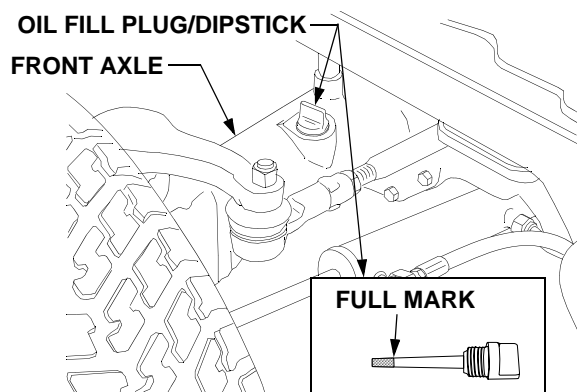
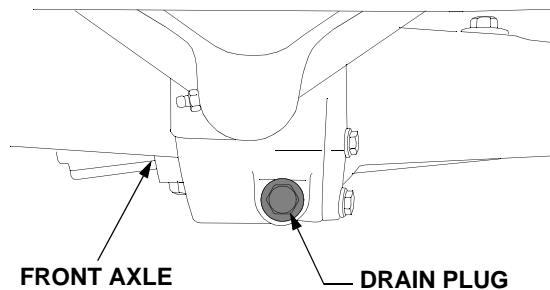

Figure 45
Figure 47
- The oil fill plug/dipstick is located on the *left* side of the axle housing. See Figure 45.
- Clean the area around the oil fill plug/dipstick to prevent debris from entering the axle housing. See Figure 45.
- Withdraw the dipstick and wipe it clean, then reinsert and screw in all the way. Unscrew and withdraw again to read the oil level. Always keep the oil level between the bottom and the full mark of the dipstick (See Figure 45).
- To prevent debris from entering the front axle housing, clean the area around the oil fill plug/dipstick and the axle drain plug located at the center front of the axle. Refer to Figure 45 and Figure 47.
- Remove the oil fill plug/dipstick to help vent the axle, then remove the drain plug and allow the oil to drain into the container. Reinstall the drain plug after draining the oil. See Figure 47.